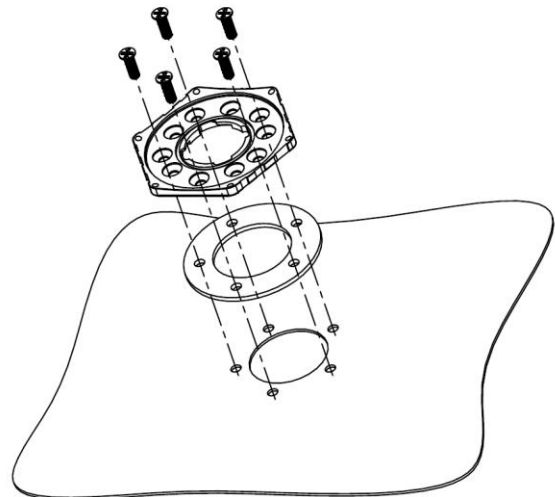

fig. 4.3. Bayonet mount
4. Fix the bayonet plate with screws/self-tapping screws (fig. 4.3).